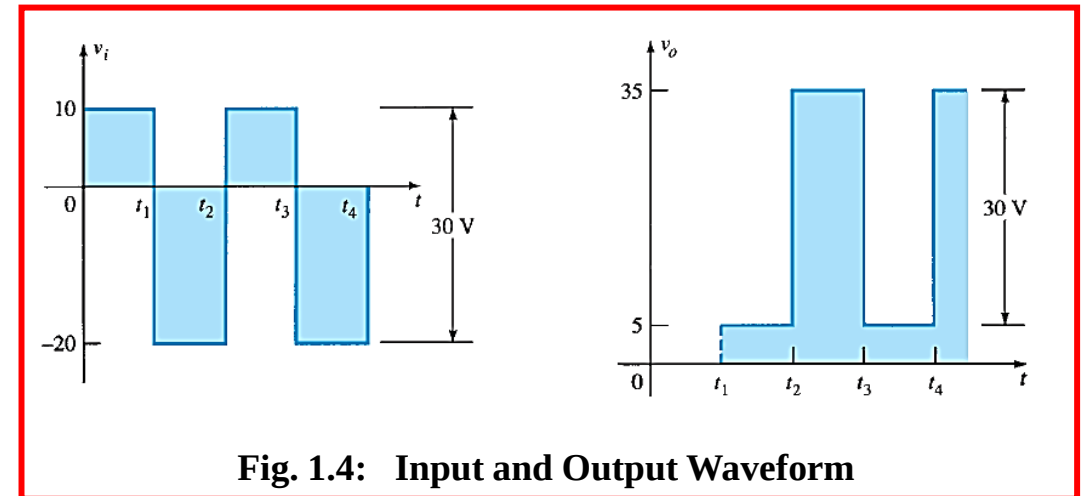

Fig. 1.4: Input and Output Waveform
Step 5: The resulting output appears in Fig. 1.4 with the input signal.